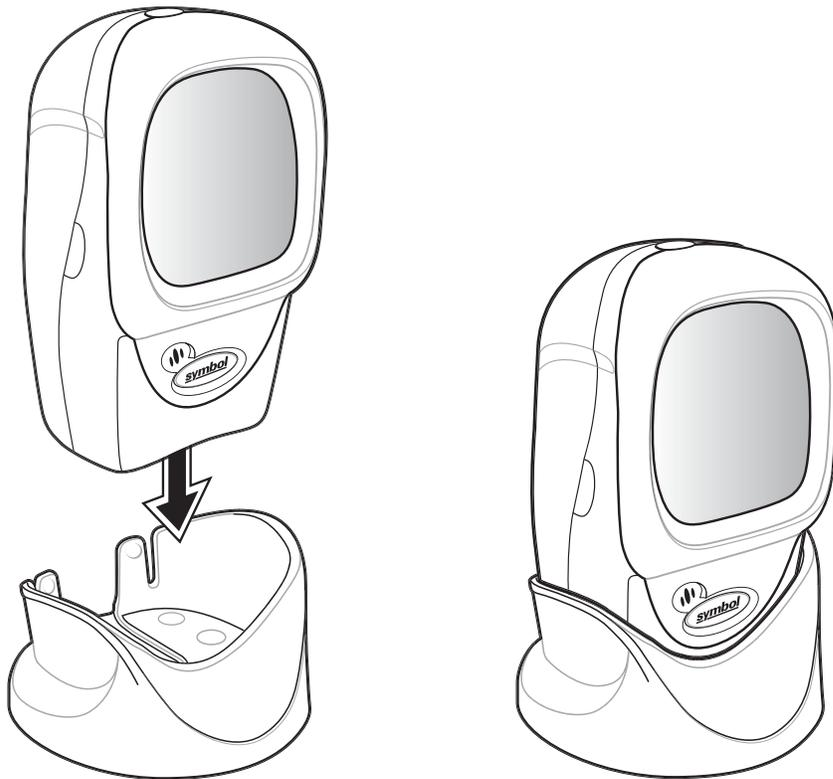

Figure 2-1 *Scanner in the Stand*
2. Place the scanner in the stand (see Figure 2-1).